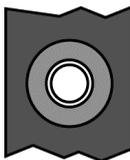

Figure 13: Stereoscopic Viewing Connector
9. If you have the appropriate stereoscopic viewing hardware and specially configured Oxygen 202 or Oxygen 402, connect the stereo cable to the stereoscopic infrared transmitter and to the stereoscopic viewing connector shown (Figure 13). You can also find more information on stereo viewing in the *Stereo 3D Technical Overview* section on page 54.